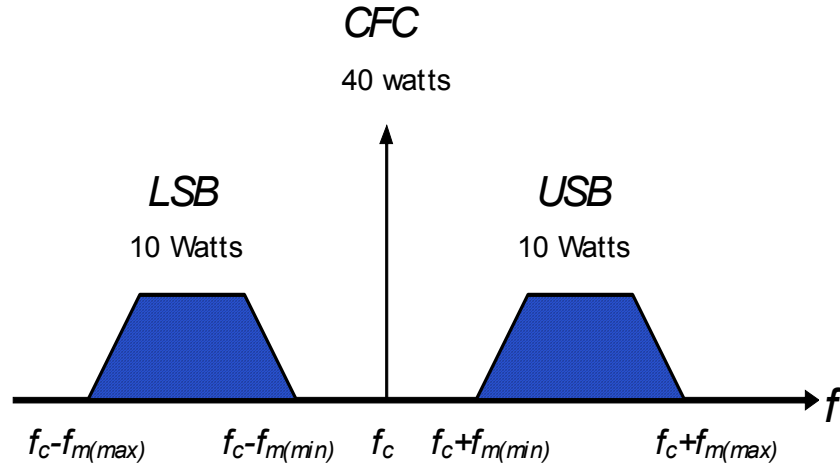
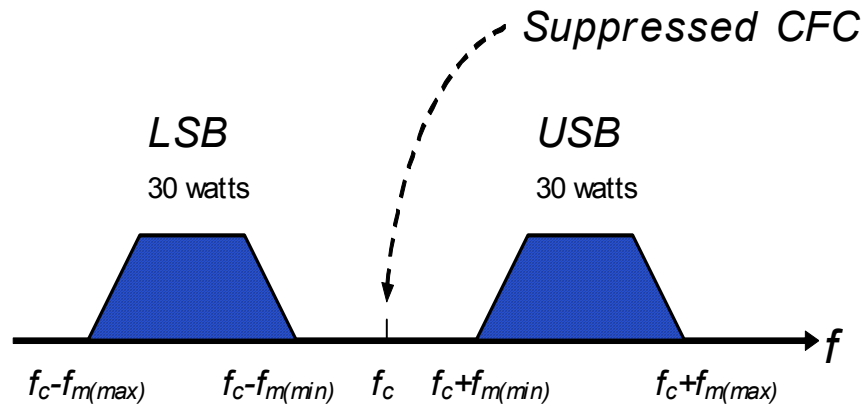

Figure 6-1: A Conventional AM (DSB-FC) Signal
Figure 6-2: A DSB-SC Signal
Figure 6-1 shows a typical AM signal, which can be thought of as a DSB-FC (double-sideband, full-carrier) signal.
Speech is to be sent using an AM transmitter. The available carrier power is 40 watts, as in Figure 6-1. The transmitter is operating at 100% modulation.
The carrier frequency component (CFC) uses up most of the available transmitter power in a conventional AM transmission. By using a special circuit called a *balanced modulator*, we can produce an AM signal with sidebands but no CFC. Such a signal is called a *double-sideband suppressed-carrier* emission, and is pictured in Figure 6-2.
The carrier frequency component is *gone* from the signal above, but something else has happened. Closely compare Figures 6-1 and 6-2. The *sidebands* have suddenly grown in power! Why is this possible?
The total available power was 60 watts for the original AM signal of Figure 6-2. When we removed the 40 watt carrier, those 40 watts of power became available for transmitting information. Therefore, *all* of the transmitted power is information power -- a great improvement over conventional AM.
If the total power of the transmission of Figure 6-2 is 60 watts (same as Figure 6-1), and again human speech is to be transmitted, calculate:
As you can see from Figure 6-2, the bandwidth of the signal will remain unchanged, since we're still sending two sidebands. The bandwidth will therefore remain at (2)(3000 Hz) or 6 kHz.
- The decibel power advantage of the SSB signal over the AM signal of Figure 6-1.